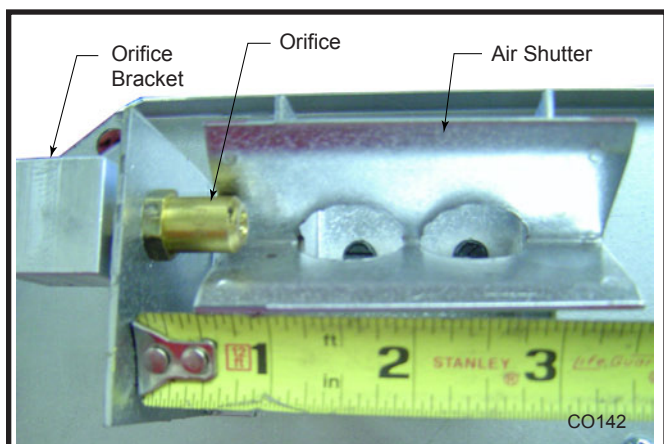

Fig. 80 The air shutter setting is 1/2" (13 mm) from the orifice bracket to the edge of the air shutter.
5. The air shutter is factory set according to table on Page 7 and should not need adjustment. The air shutter opening may be verified by measuring as shown in Figure 80.